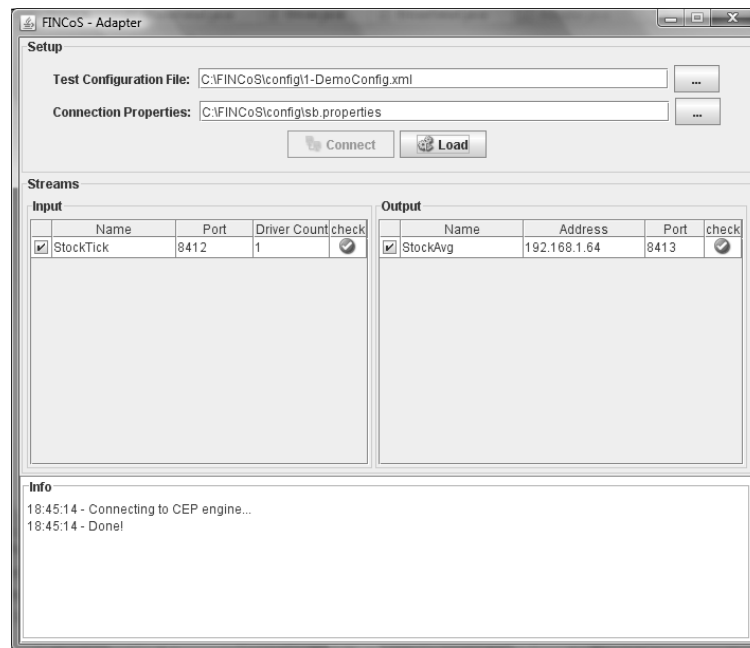

Figure 3.3: Adapter application after connecting to CEP engine
3. **Connect to CEP engine** – when the user clicks on the “Connect” button, the Adapter will try to connect with the CEP engine using the connection properties obtained from the product-specific .properties file (*in most CEP products the continuous queries must already be running at that moment*). If the connection succeeds, the Adapter will retrieve the list of available input and output streams. The Adapter then will check if the streams configured in the test setup file are all available in the CEP engine. If that is the case, the Adapter application will look like in figure 3.3, with a check mark in the right side of each stream, indicating that they are indeed available at the CEP engine. At that point, the Adapter will be ready for being loaded. On the other hand, if some of the streams in the test setup file are not present in the CEP engine, the Adapter will display a warning message, and it will not be possible to load it (*in fact, it is still possible to proceed with Adapter load in this case, by deselecting the missing stream(s); however the missing stream(s) will not be available for use at the Adapter, which may lead to an undesirable test behavior*);